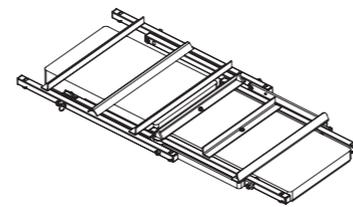

Fig. 1
1. Place Creeper Sections face down, arranged as shown in Fig. 1 (note Middle Section orientation).